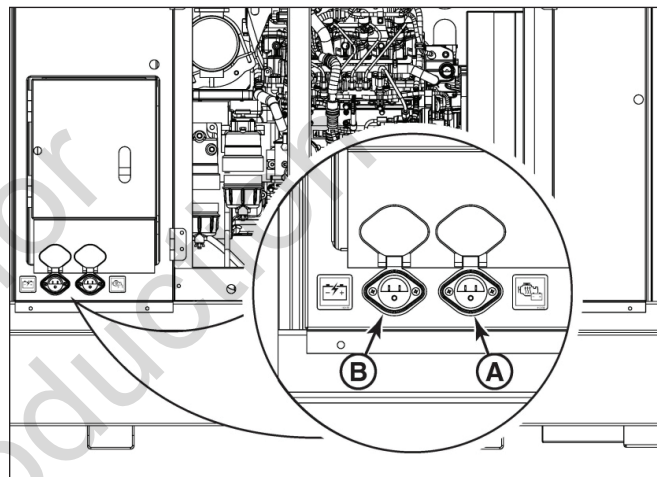

Figure A2
1. Plug the female end of a heavy-duty power cord (not supplied) into the Block Heater / Battery Heater recessed receptacle (A, Figure A2).
1. Plug the female end of a heavy-duty power cord (not supplied) into the Battery Charger recessed receptacle (B, Figure A2).